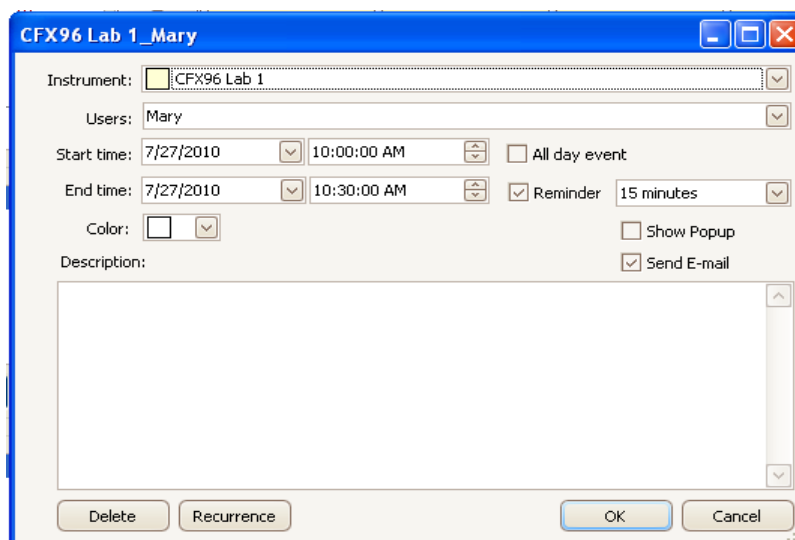

Figure 17. Scheduler New Event window.
2. Select the instrument and user from the drop-down list (Figure 17).